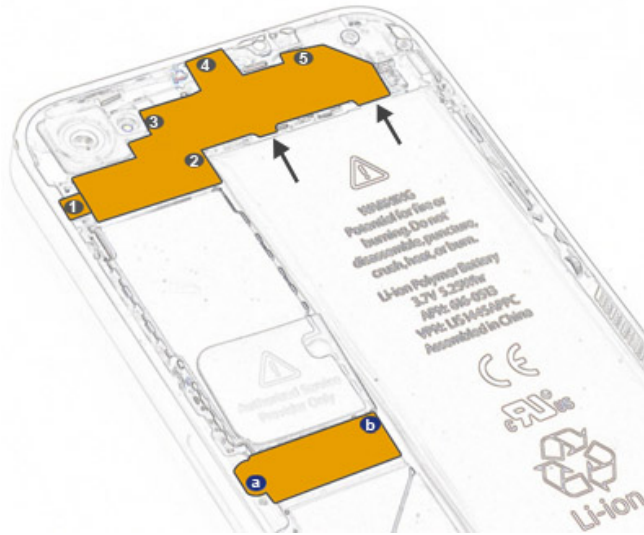

Figure 4
- The next step is to remove the two EMI shields. The locations of these shields are indicated in the figure 4. For the removal of the first shield located at the top of the phone, you will have to remove five screws using small Phillips screwdriver (the positions of screws on the shields are also indicated in the figure 4). Be careful when lifting the shield up after removing the screws because the shield is held in place with two hinges as shown by the two arrows in the figure 4. The shield loops into these hinges and therefore you will have to free the shield from these hinges as well.